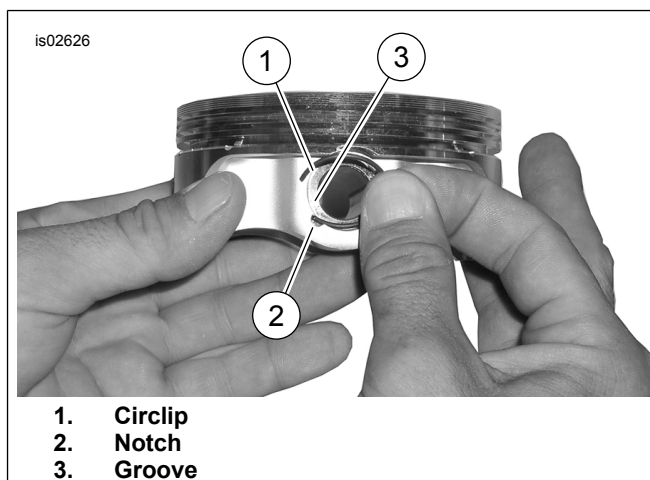

Figure 2. Circlip and Piston (generic piston shown)
- See Figure 2. Insert the open end of the circlip (1) into the notch (3) on the groove (2) around the piston pin boss so that the gap is at the 12:00 or 6:00 position when installed.